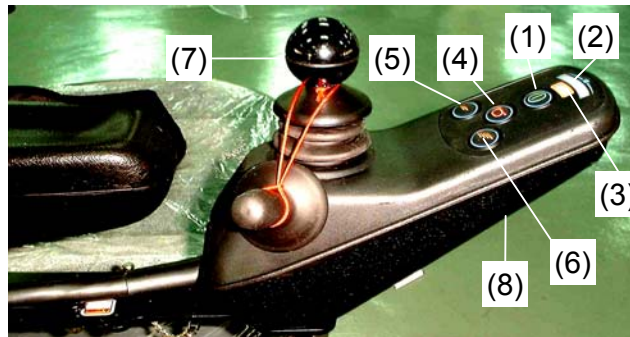

Fig. 14
- STEP 1** Set the Maximum Speed Indicator at 3 (recommended) by adjusting the Speed Increase / Decrease Button (Fig.14).
To recharge the Powerchair, connect the charger to the Charging Port at the front of the VSI referred to as (8) in Fig. 14. Switch on the charger.